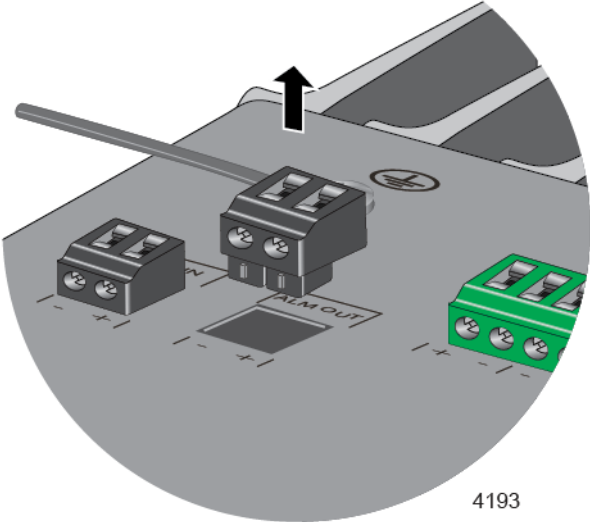

Figure 37. Removing an Alarm Connector
- 3. Remove the alarm connector from the top panel. Figure 37 shows the removal of the ALM OUT connector.